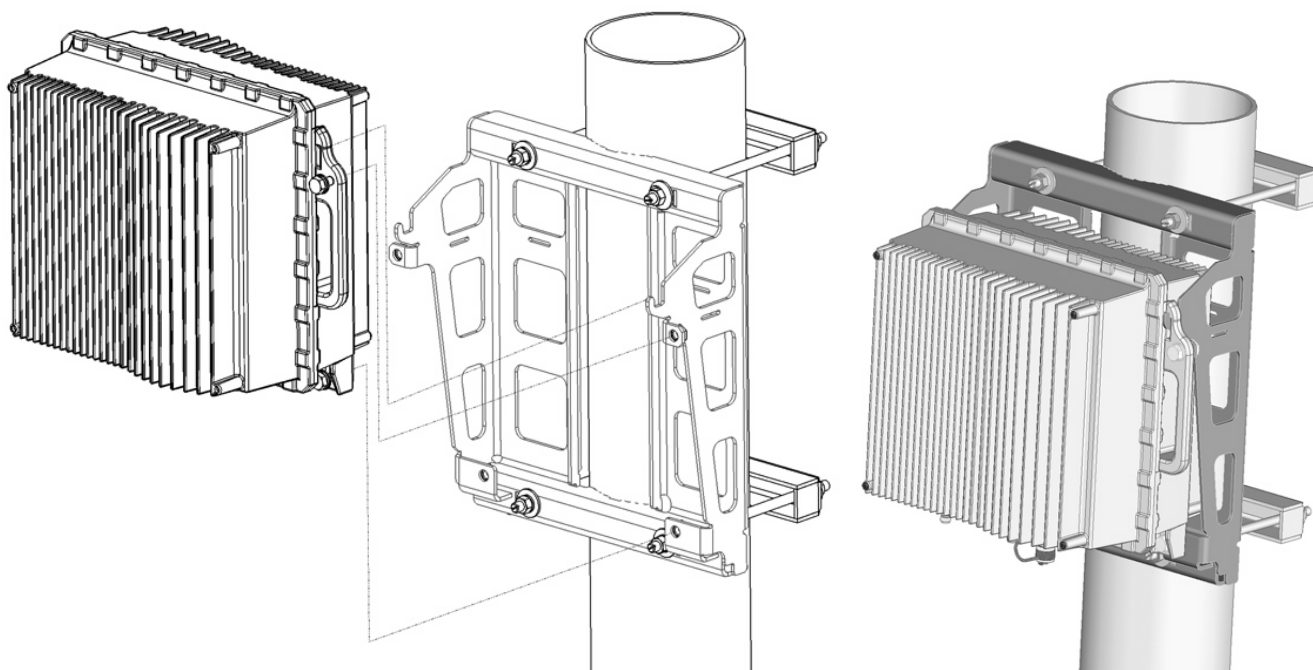

Figure 3: Mounting the ODU
- 5 Hang the ODU on the carriage and tighten the four M10x30 screws (Figure 3). Apply torque of 20 [N*m] (177 [lbs*in]). It is recommended to use a harness to lift the unit when hanging it on the carriage.